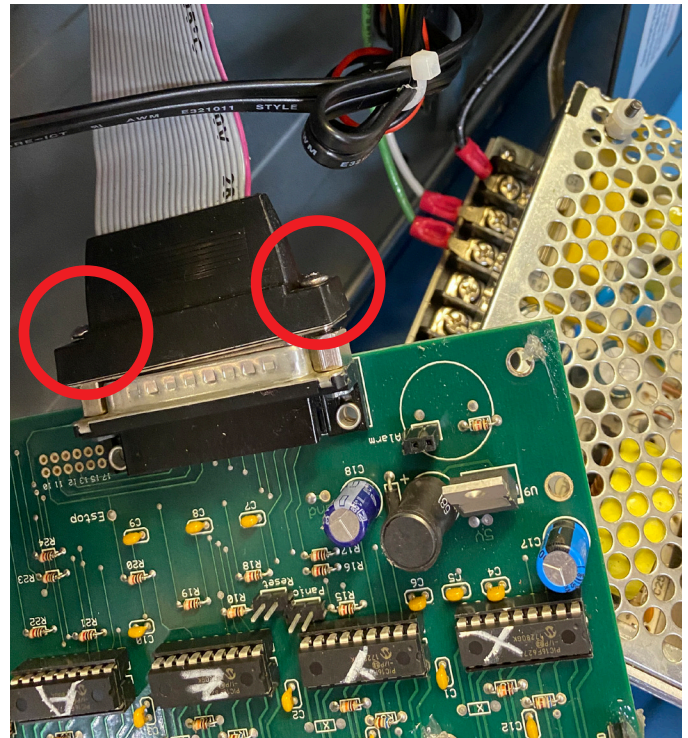

FIGURE 13
10. Remove the parallel port cable (see Figure 13).